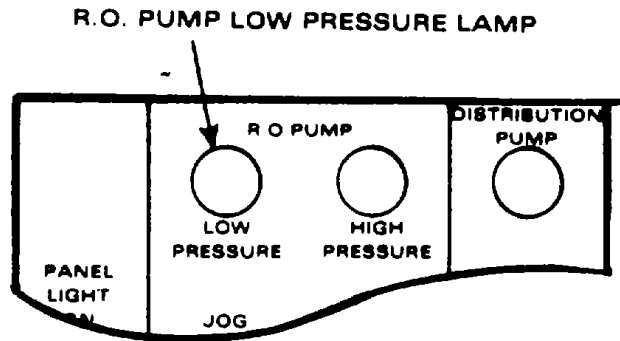
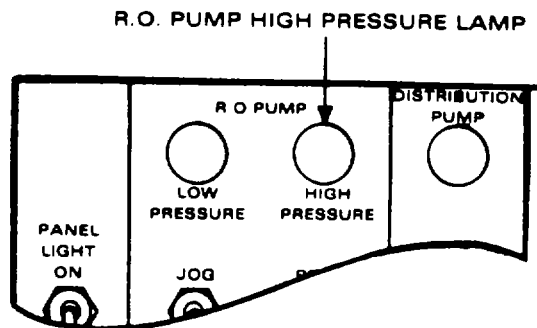
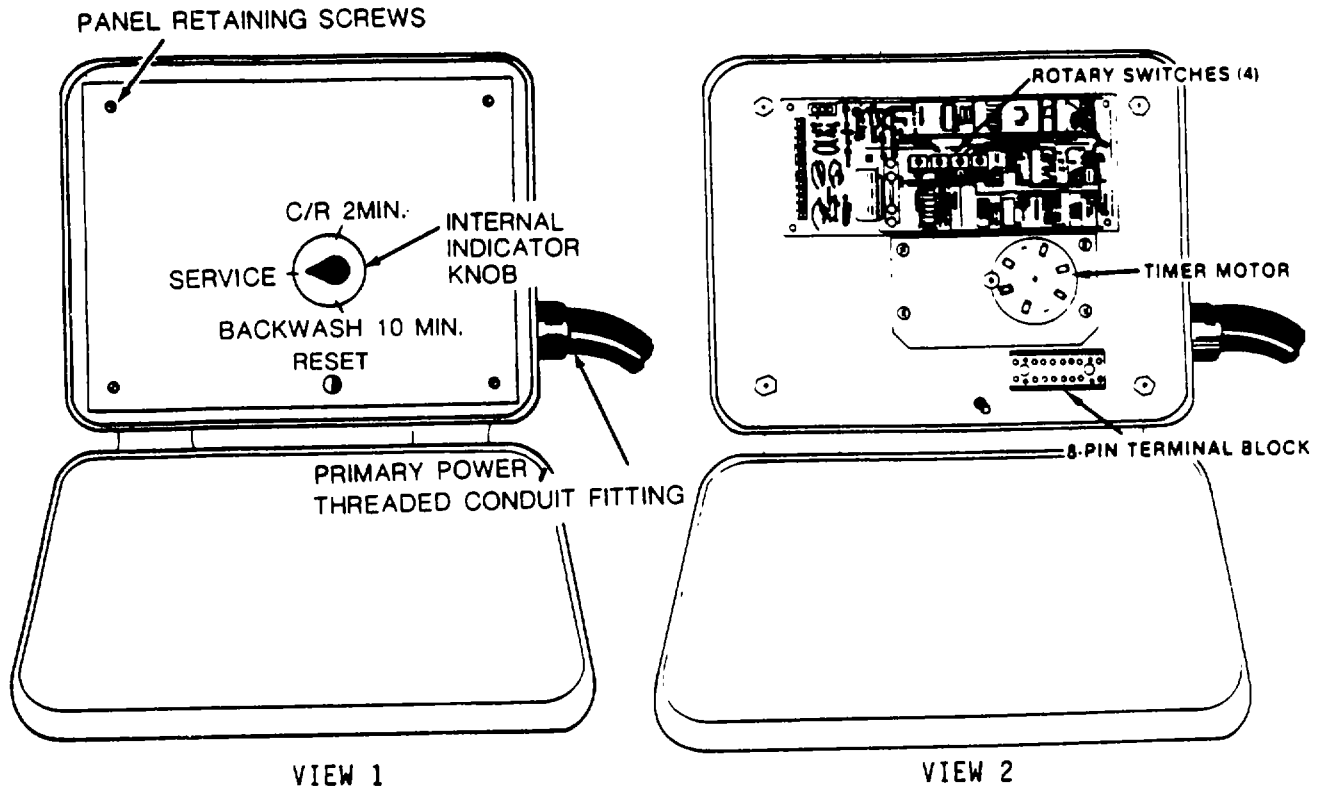

Figure 2-70. R.O. Pump Low Pressure Lamp
Figure 2-71. R.O. Pump High Pressure Lamp
Figure 2-74. Solid-State Timer (Subpanel and Rotary Switches)
**Solid-State Timer.** The solid state timer is approximately 8 inches high, 10 inches wide and 6 inches deep. Protruding from the rear of the timer is the pilot controller and solenoid valve (fig. 2-70). Inside is a black RESET button and an INTERNAL INDICATOR knob mounted to a subpanel (view 1, fig. 2-71).
(1) Ensure INTERNAL INDICATOR knob is in the SERVICE position by pressing the black RESET button. The INTERNAL INDICATOR knob allows the position of the pilot controller valve to be changed manually, which is never necessary if timer is functioning properly. In any event, if pilot controller valve is not in SERVICE position, ROWPU cannot be backwashed using normal procedures. In fact, ROWPU will not even operate.
(2) Overcurrent protection is provided by an internal resettable semiconductor. In the event of an overload, the circuit breaker is reset by depressing the RESET button. If power loss erases the memory of the time control counter, an automatic homing circuit is incorporated into the system which returns the pilot controller to the service position whenever power is restored.
(3) Remove the subpanel to access the four 1 O-position rotary switches (view 2, fig. 2-74) used to set the duration (in minutes) of each phase of the backwash cycle. Ensure settings are as follows:
- (1) Shut the ROWPU down in the normal way (para. 2-31).
- (2) Make sure R.O. ELEMENT CLEANING switch (fig. 2-74) on side of control panel is down.
- (3) Check water level in backwash tank. Tank should be full.
- (4) Ensure basket strainer in backwash pump is not clogged.
- (5) Open backwash tank valve.
- (6) Loosen draincock on bottom of backwash pump to prime pump.
- (7) Turn BACKWASH VALVE handle downward to BACKWASH.
- (8) Press RESET button on backwash timer to ensure INTERNAL INDICATOR knob is in service position (view 1, fig. 2-74).
- (9) Push BACKWASH switch up to START position and release immediately.